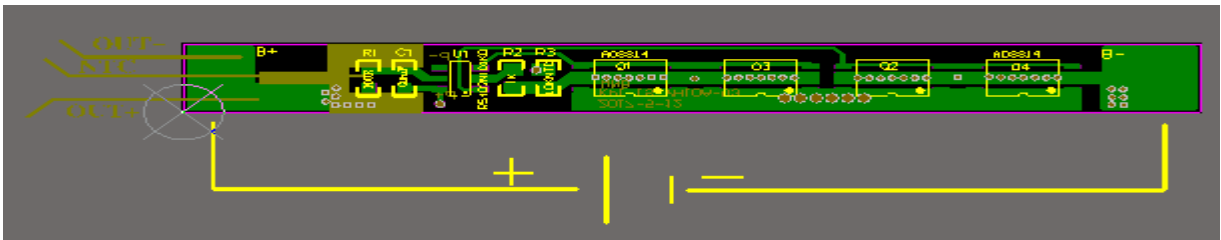

Figure 4 PCB Connect Form Diagram
2.6PCB Connect Form Diagram Refer to Figure 4